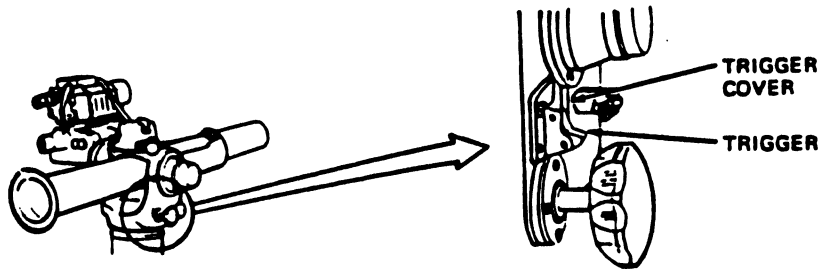

Fig 4-43. Trigger/trigger cover.
Step 1. Lower the trigger cover over the trigger (after the missile has ended flight or if missile has not been fired) (fig 4-43).